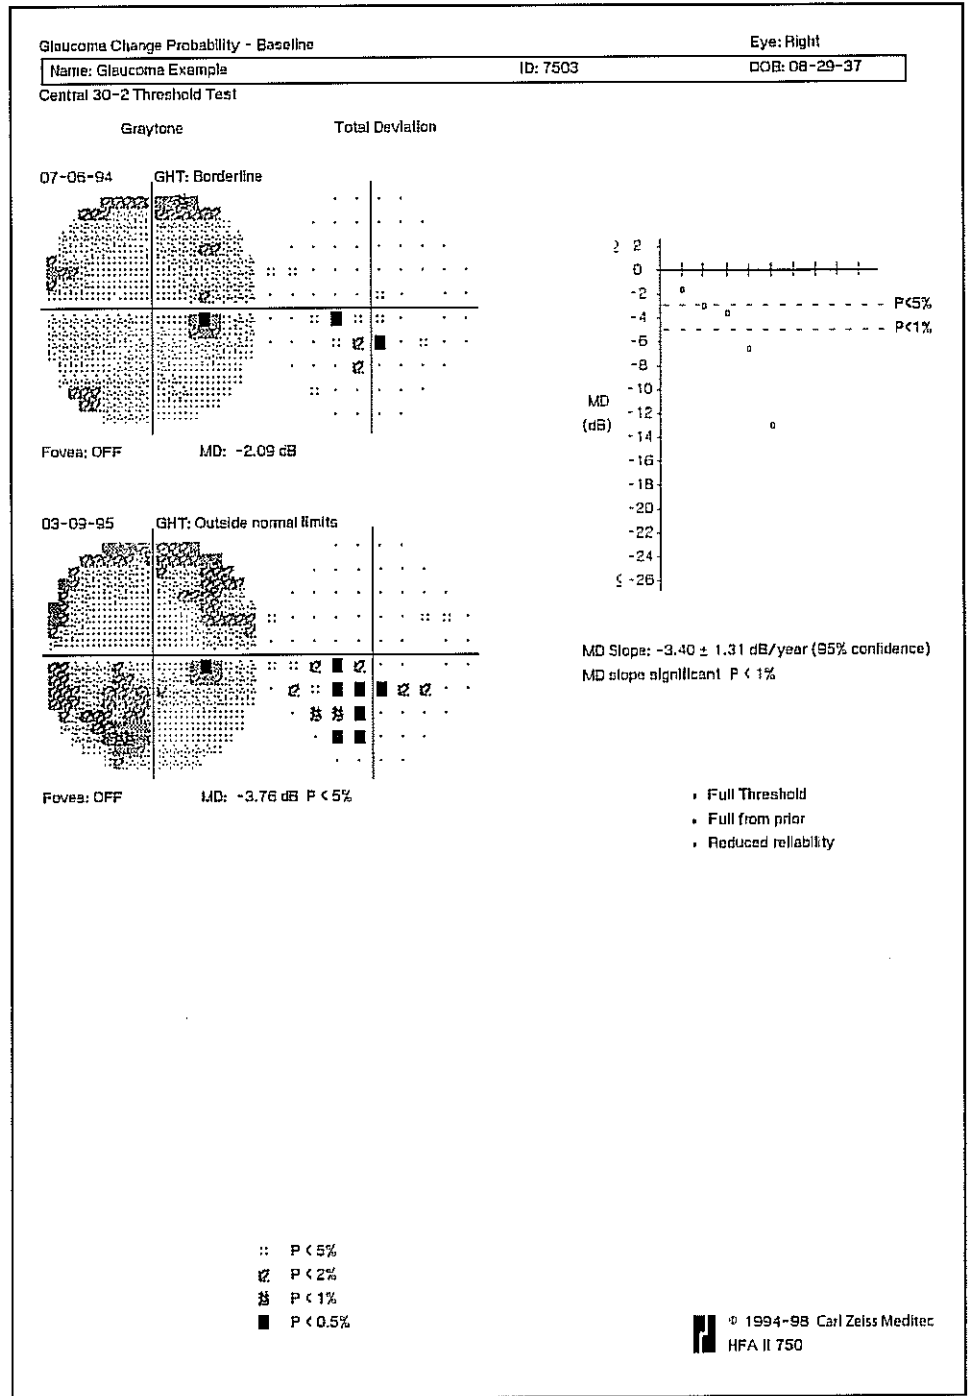

Figure 7.7: The Glaucoma Change Probability - Baseline
The glaucoma change probability printout (Figure 7.7 and 7.8) includes the patient information that appears on other STATPAC printouts. Two data presentations (graytone and total deviation plot) for the baseline tests are printed on the upper left section of the printout. A plot of the Mean Deviation (MD) for each test plus the linear regression analysis of mean deviation, which is discussed below, occupy the upper right section of the printout. The first column on the left of the printout contains the graytone presentation of test results. The total deviation plot appears in the second column. These are the only two data presentations given